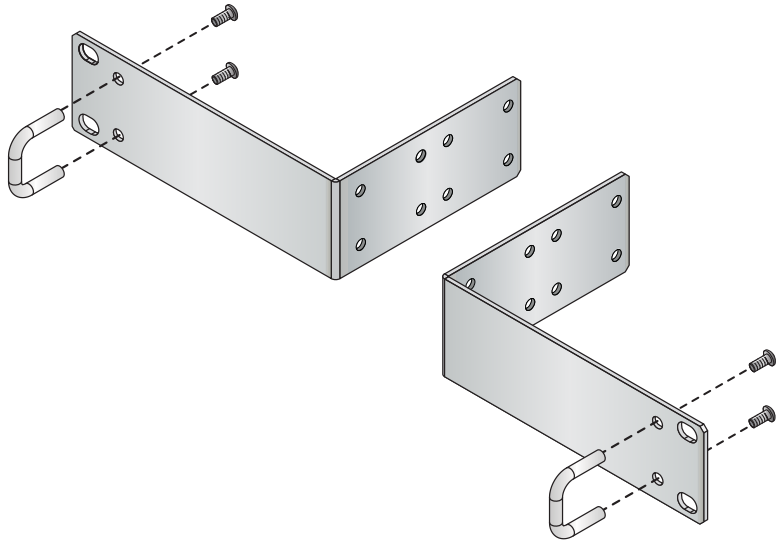

Figure 25. Attaching handles to the brackets
4. Use the four handle screws to screw the handles to the wider side of each bracket, as show in Figure 25.